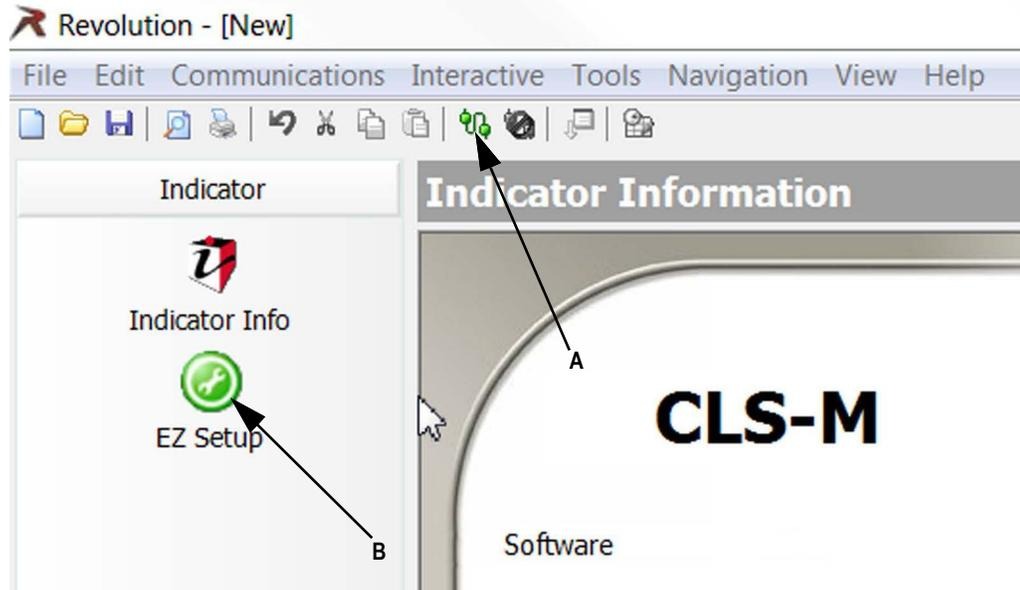
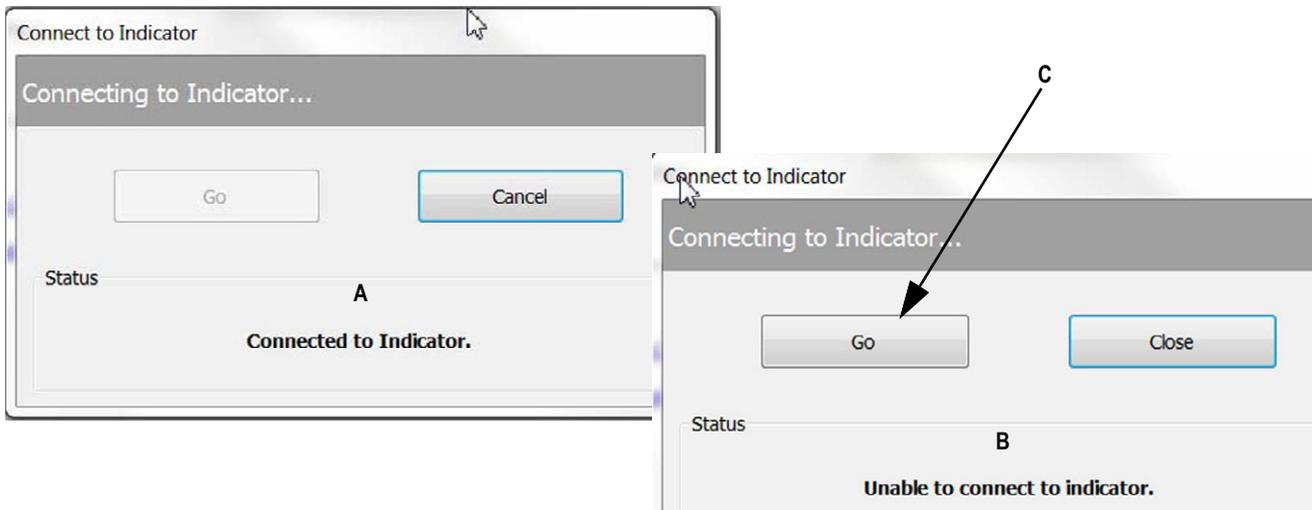

Figure 4-5. Connect Revolution
Figure 4-6. Connection Success/Failure
- Select the connect icon from toolbar (Figure 4-5 A). A pop-up box comes up momentarily (Figure 4-6 A) to indicate the computer is now indicated to the box.
- If it comes up as *Unable to Connect to Indicator* (Figure 4-6 on page 16 B) verify the Comm Port is correct and that the mobile PC is turned on. Then select GO (Figure 4-6 on page 16 C) to connect.